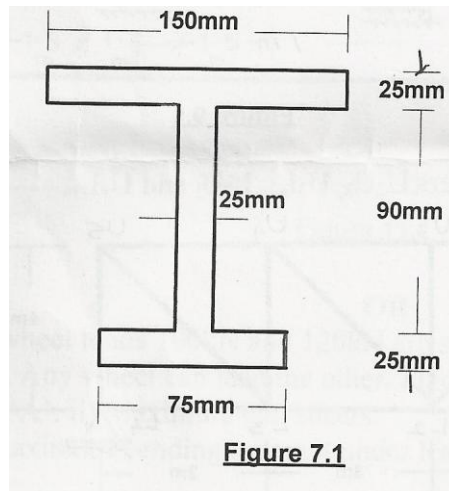

Figure 7.1
Q. No. 7: a) What are the assumptions made in theory of plastic analysis? (4)
b) Find shape factor for an unsymmetrical I section as shown in Figure 7.1. (7)